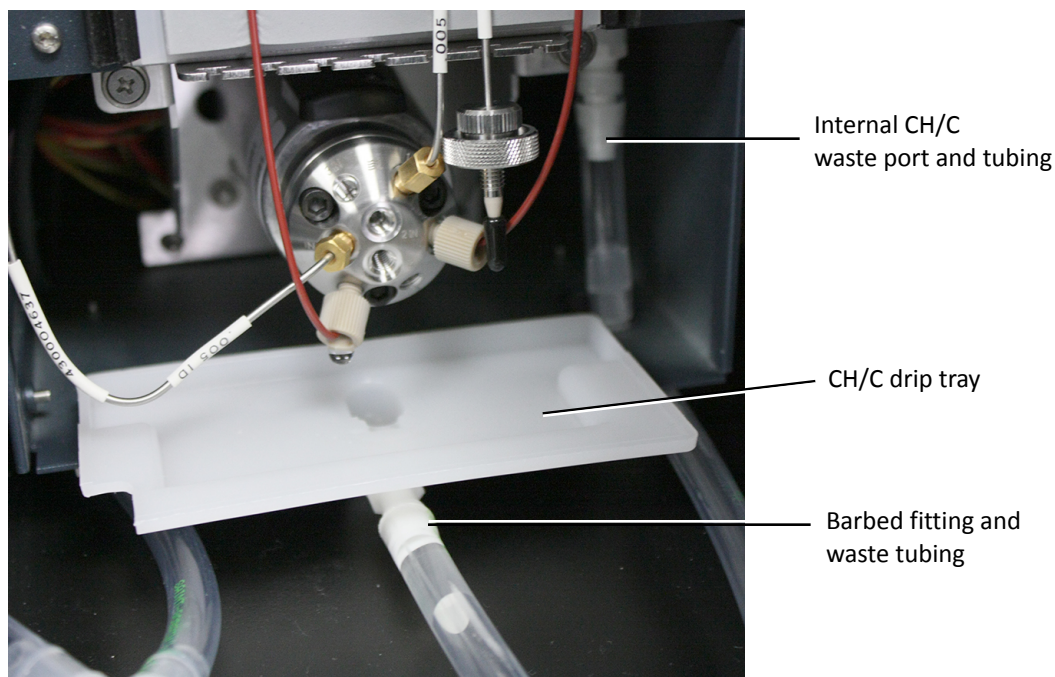

Figure 17 - CH/C waste connection details
10. Assemble and install the 30-cm CH/C drip tray and make CH/C waste connections (Figure 17):